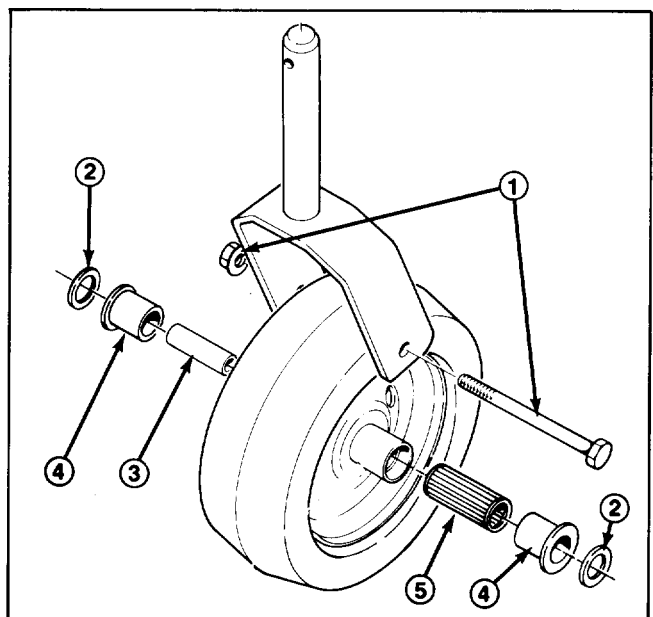

Figure 28
1. Remove capscrew and locknut holding caster wheel and (2) washers between caster fork (Fig. 28).
2. Pull spanner bushing out of wheel hub (Fig. 28).
3. Remove bushing from wheel hub and allow bearing to fall out (Fig. 28). Remove bushing from opposite side of wheel hub.